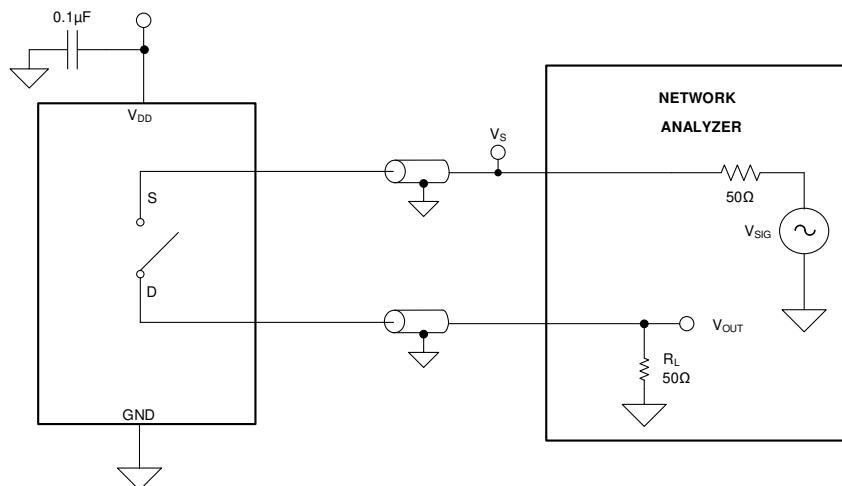

図 7-6. Off Isolation Measurement Setup
Off isolation is defined as the ratio of the signal at the drain pin (D) of the device when a signal is applied to the source pin (S) of an off-channel. The characteristic impedance, Z_0 , for the measurement is 50Ω . 図 7-6 shows the setup used to measure off isolation. Use off isolation equation to compute off isolation.